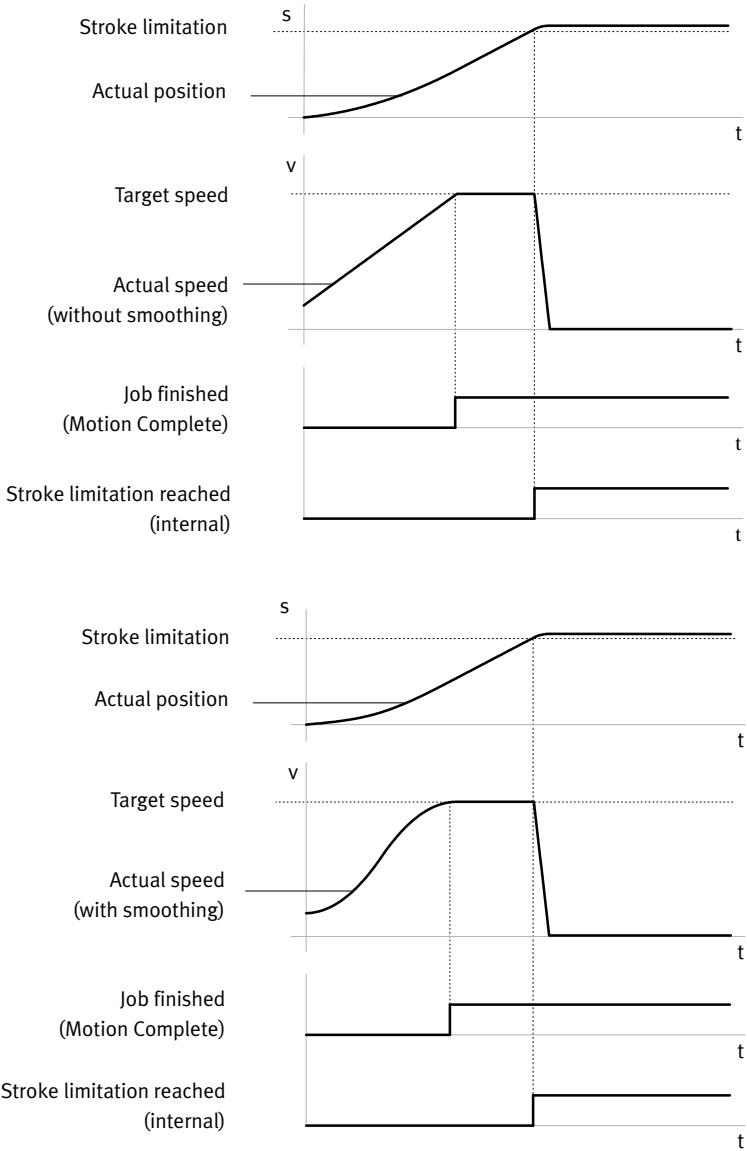

Fig. 2.9 Speed mode with stroke limitation (target speed reached first)
– Speed is reached first, that is, the actual speed is within the target window for the duration of the damping time. (Example → Fig. 2.9)	The “Motion Complete” signal is set. The drive continues to move at target speed in a controlled manner. Monitoring of the speed deviation remains active; force remains limited to the maximum stated in the order; stroke limitation remains enabled.